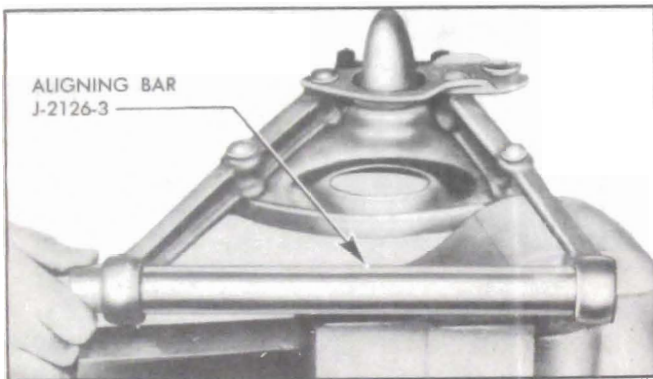

Figure 6-21—Checking Alignment of Control Arm Inner Ends
3. Use Aligning Bar J 2126-3 to check alignment of inner ends of control arm. See figure 6-21. If the ends are not in alignment use a piece of pipe over the bar to obtain more leverage and bend arms until aligning bar enters both ends freely. Distance between inner ends of arm should be  $11\frac{1}{4}$ " plus or minus  $\frac{1}{32}$ ", from inside to inside. See figure 6-22.